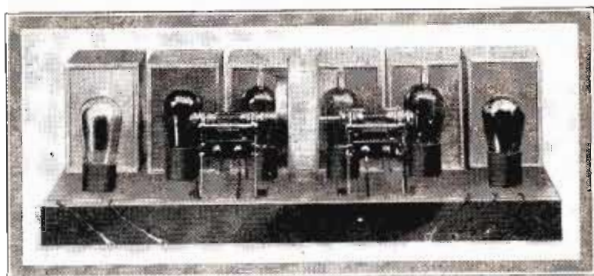

Fig. 1
*Fig. 1. This photograph reveals the details of the Peerless unit, which is an exceedingly simple and compact one. Its field is energized by 6 volts direct current secured through a rectifier shown at the right of the unit in the above picture*
The Peerless dynamic speaker illustrated in Figure 1 is made by the United Radio Corp. As shown in the illustration, it is of the a. c. type, having its own transformer and contact rectifier for energizing the 6 volt field winding of the speaker. In this speaker the movable coil consists of a single turn copper ring, the extension of which becomes the spring that holds the cone in place and permits forward and backward travel. This is a departure from other types of speakers in that it simplifies production work and assembly. The finished job is placed in a cabinet of Gothic design, which presents a very attractive appearance to those seeking beauty as well as utility.
Fig. 1 shows the simple and practical construction of the set, which contrary to accepted practice employs transformer coupling throughout. Sub-panel construction is used for the chassis, and the sub-panel is completely wired and sealed into an aluminum case. All of the instruments used in the receiver are fitted and housed in this sub-panel except the trimmer and volume control which are mounted directly on the panel. The tubes and transformers all plug right into the sub-panel for which a double row of sockets is provided, one row for the six tubes and the other for the six transformers.